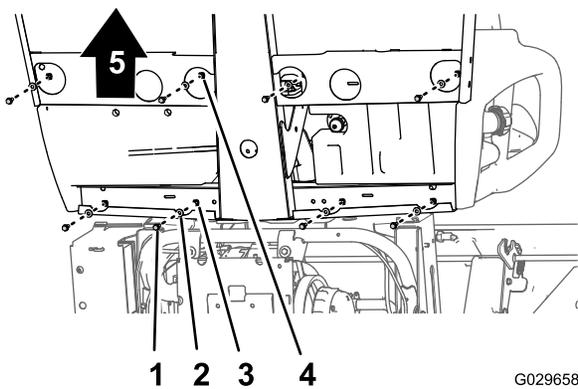
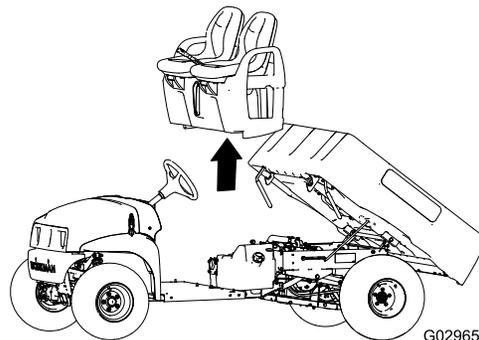

Figure 47
Figure 48
- At the bottom of the machine, remove the 8 flange-head bolts and 8 washers that secure the seat base to the floor plate and rear-cab channel (Figure 47).
- Carefully lift the seats, seat base, and parking brake cables from the machine (Figure 47).
1. Lift the seats and seat base onto the machine and align brake cables to the chassis (Figure 47 and Figure 48).
2. Align the holes in the seat base with the holes in the floor plate and rear-cab channel (Figure 47 and Figure 48).